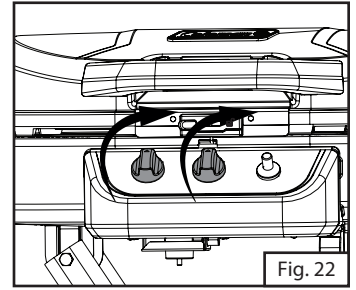

Fig. 22
- Before attaching propane cylinder make sure both control knobs are closed. (Fig. 22)